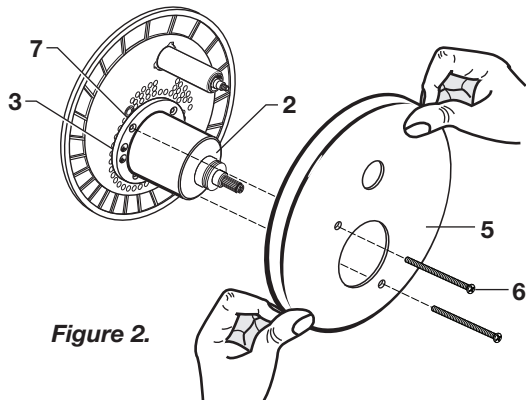

Figure 2.
- **Figure 2.** Push ESCUTCHEON (5) onto HANDLE BASE (2) tight against finished wall. Install the two MOUNTING SCREWS (6) and tighten.